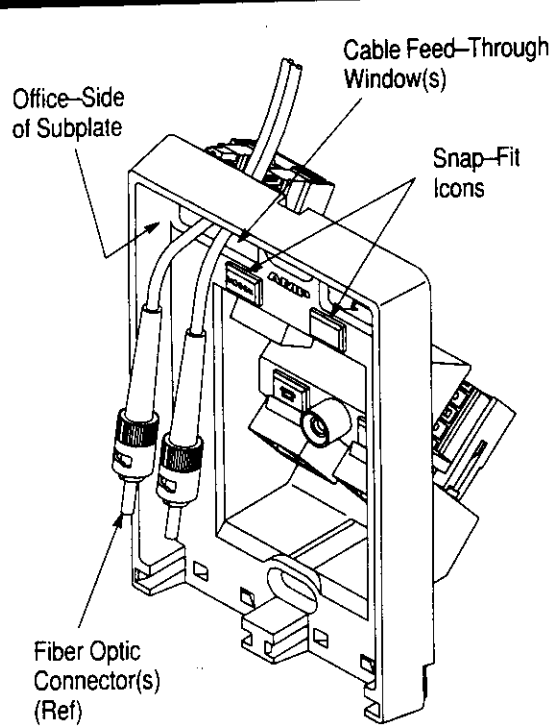

Figure 3
5. Feed the fiber optic connectors into the cable feed-through window so that they hang on the office-side of the subplate. Dress the fiber optic cable into the opening of the mounting surface. Be careful to maintain at least the minimum cable bend radii. See Figure 3.